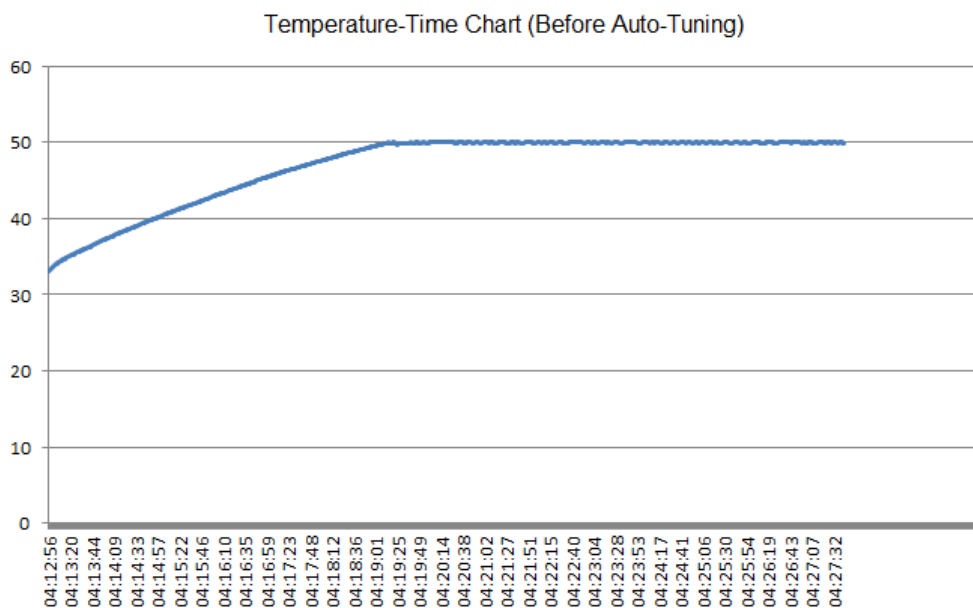

Figure 5
- When the temperature measured is constant and is 50°C, the best values of the DPIDE temperature control parameters (the  $K_P$  in D108~D109, the  $K_I$  in D110~D111, the  $K_D$  in D112~D113, and the  $T_f$  in D114~D115) are calculated automatically. The experimental result of the initial adjustment of the values of the parameters is shown in Figure 5.
The experimental result of the initial adjustment of the values of the parameters is shown in Figure 5.